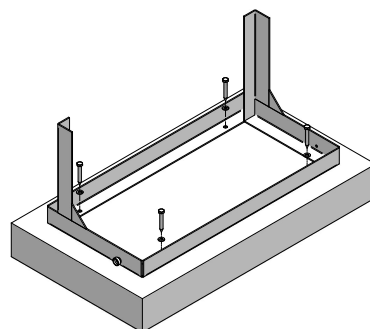

Fig. 9: Fixing the cabinet
1. Remove the cover from the device (see fig. 9)
5. Return the device and screw it to the floor on all anchor points (see Fig. 9).
6. Return the cover (6).